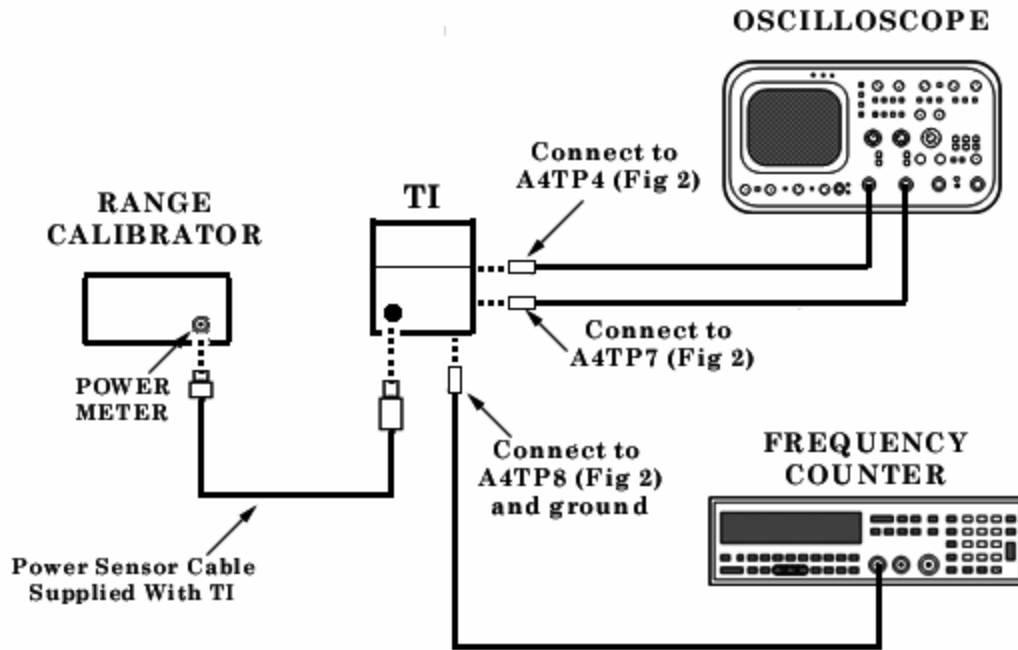

Figure 3. Model 435A multivibrator adjustment - equipment setup.
(6) Connect equipment as shown in figure 3.